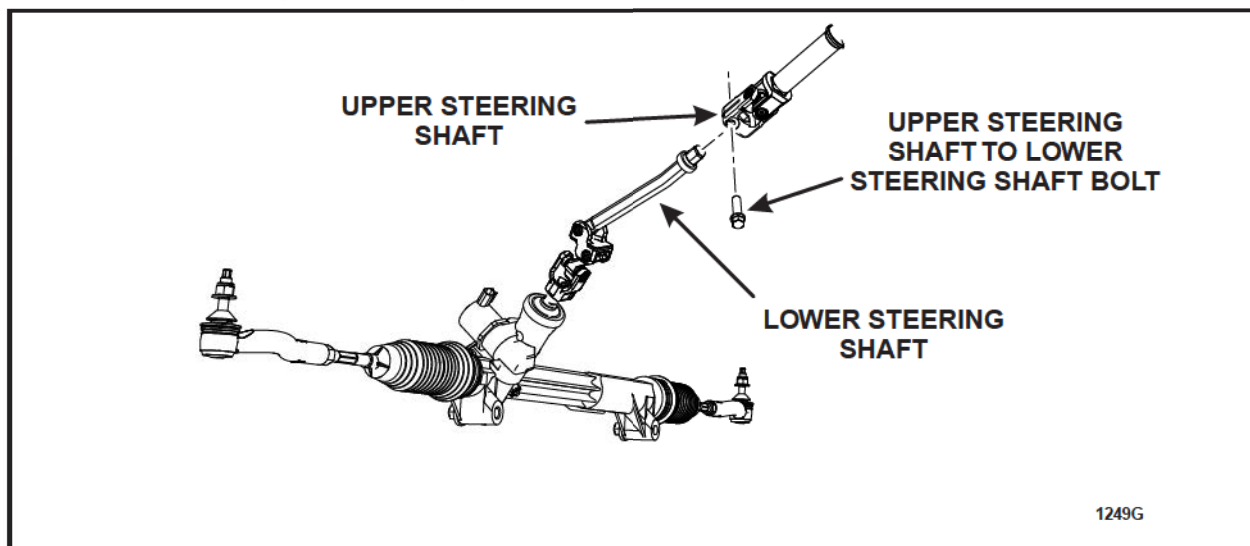

FIGURE 1
- b. Remove and discard the upper steering shaft to lower steering shaft bolt and disconnect the lower steering shaft. See Figure 1.